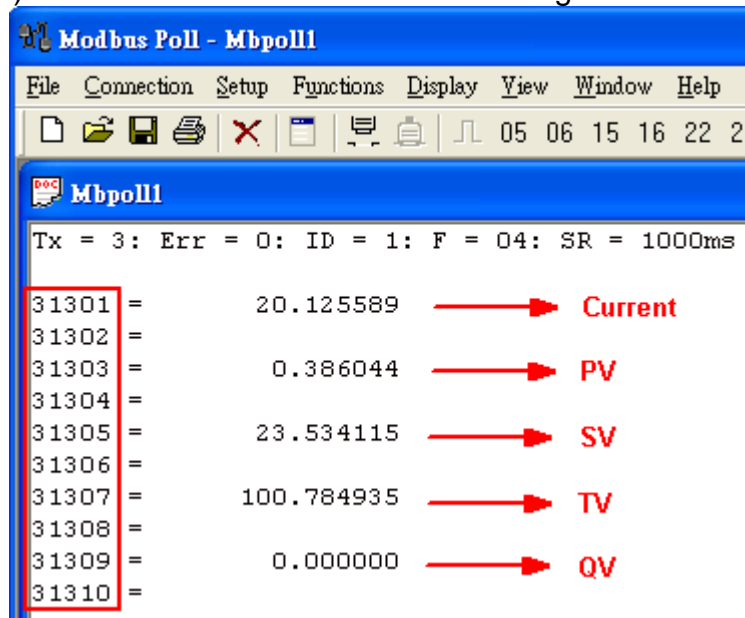

Figure 3-8 The CMD(3) data of HART device
<5> The CMD(3) data of HART device is shown like Figure 3-8.